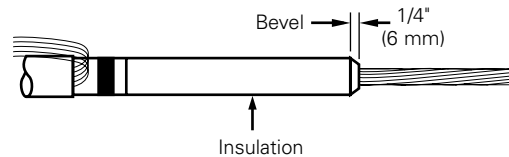

Figure 18. Line illustration of insulation bevel.
- Remove sharp edge of insulation by beveling at a 45° angle for approximately 1/4" (6 mm). (Refer to Figure 18.)